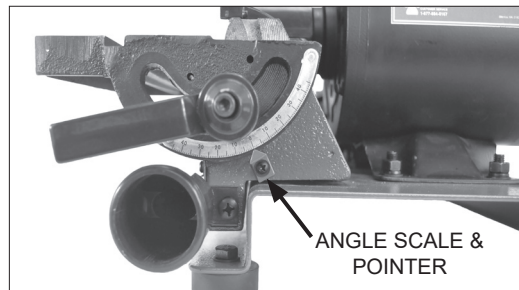

FIG. 11
25. Attach the Angle Scale Pointer (#16) to the sanding disc frame with the M4 Phillips pan head Screw (#14). The pre-drilled hole is located just below the angle gauge. See FIG. 11.